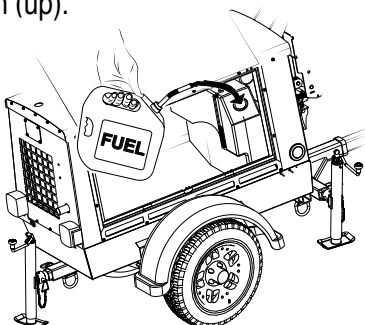

Figure 10. Adding Fuel
2. Lift the light tower access door (Figure 10), battery/muffler side. Set the door support latch in place to keep the door open (up).